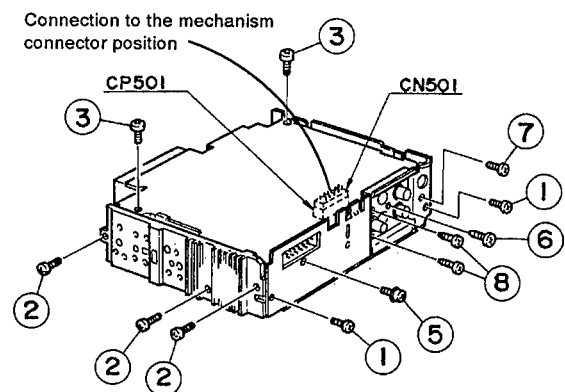

Fig. 4-4
- ◆ **Removing the main board assembly (with rear panel)** (See Fig. 4-4)
1. Remove two screws ① retaining the rear panel to the chassis.
2. Remove one screw ② A retaining the IC to the heat sink.
3. Remove two screws ③ retaining the main board assembly.
5. Remove two screws ② to remove the heat sink.
- ◆ **Removing the rear panel** (See Fig. 4-4)